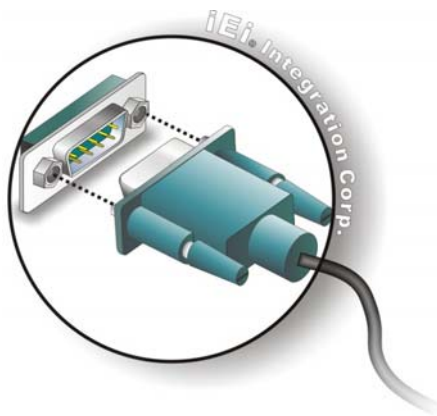

Figure 3-7: DB-9 Serial Port Connector
Step 2: **Insert the serial connector.** Insert the DB-9 connector of a serial device into the DB-9 connector on the bottom panel. See **Figure 3-7**.